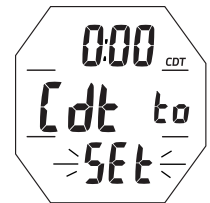

Fig. 7B - CDT STATUS (to access Set)
- A (< 2 sec) - to step forward through selections of OFF, ON, and SET (Fig. 7B, page 10).